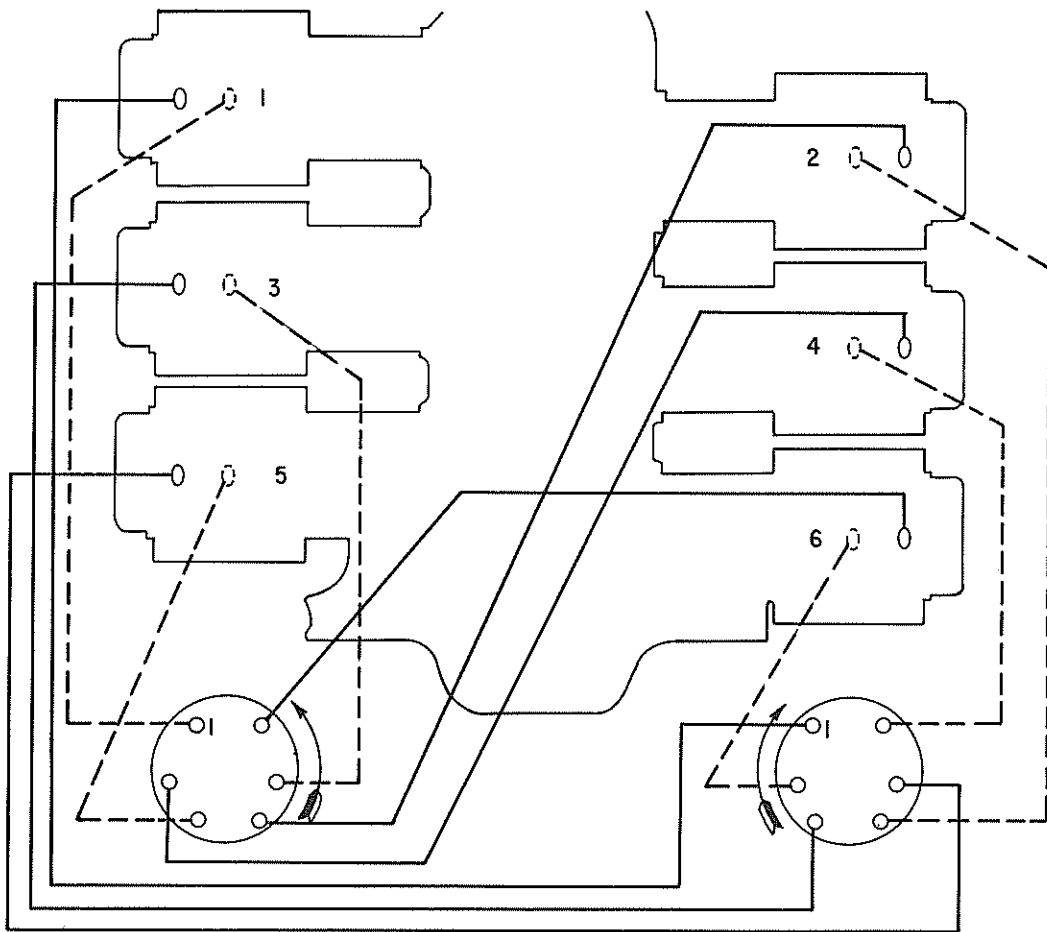

Figure 5-1. Ignition Wiring Diagram
a. Ignition Harness or Wire Replacement - In the event that an ignition harness or an individual lead is to be replaced, consult the wiring diagram (figure 5-1) to be sure harness is correctly installed. Mark location of clamps and clips to be certain that the replacement is clamped at correct locations.